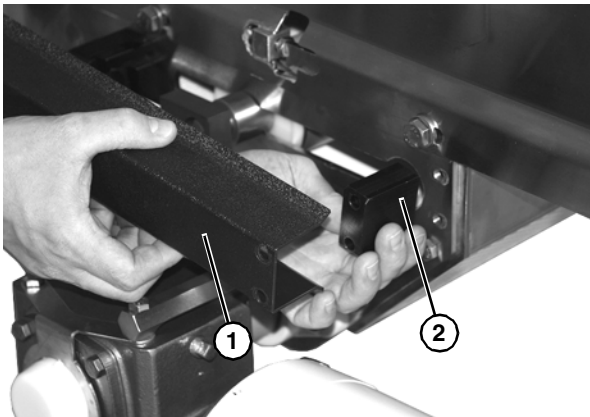

Figure 73
4. Remove cover (**Figure 73, item 1**) and spacer (**Figure 73, item 2**) from conveyor frame.